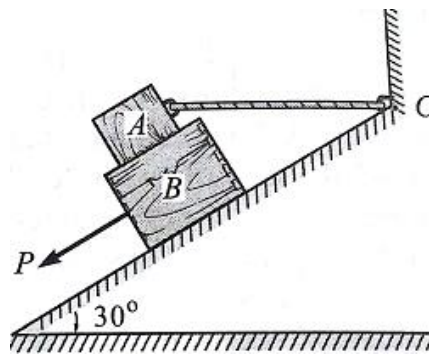

Fig.9
7. Block A of mass 30 kg rests on block B of mass 40 kg as shown in Fig.9. Block A is restrained from moving by a horizontal rope tied at point C, what force P applied to the plane inclined at 30° with horizontal is necessary to start block B down the plane. Take coefficient of friction for all surfaces as 0.35. [10 M]